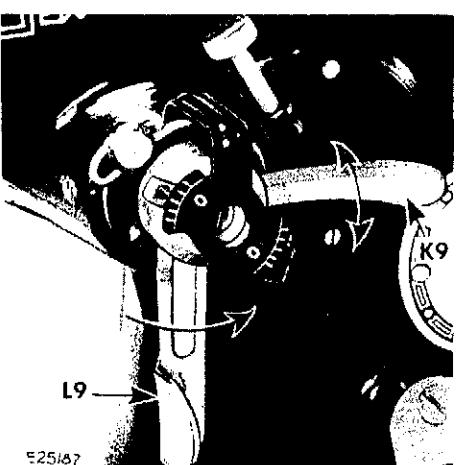

Fig. 212
**SETTINGS:** Bight control lever **K9** at any desired setting **between lowest and highest** point and position lever **L9** at **lowest** point, as shown in **Fig. 212**.